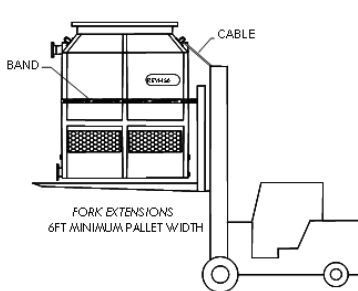
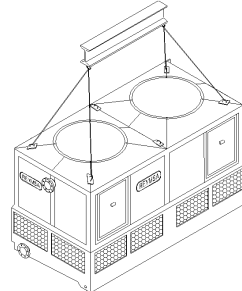
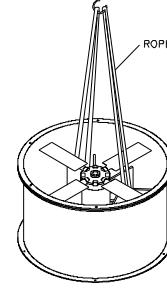

Figure A-9: Fork lifting
Figure A-10: Double Fan Tower lifting
Figure A-11: Fan Duct Lifting
- B. After assuring the equipment is received in proper conditions, proceed to unload it off of the transportation vehicle, piece by piece, with a crane (using a spread bar) or forklift of the appropriate capacity (see Figure A-9, Figure A-10 and Figure A-11 for examples).